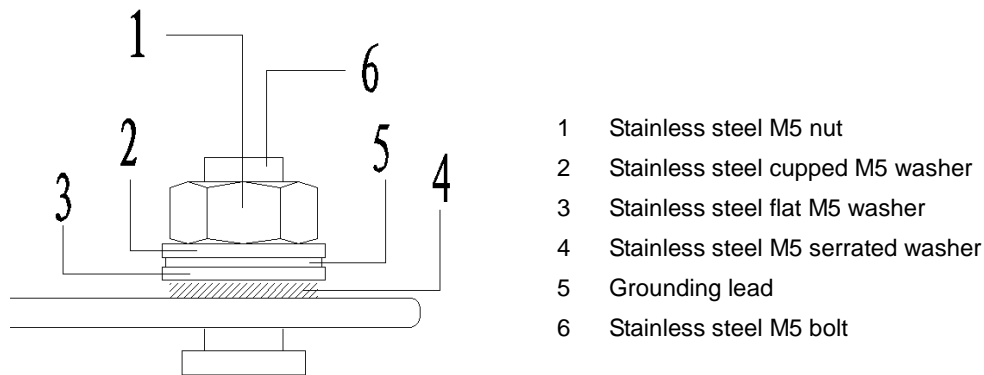

Figure-1 Grounding panel frame with stainless steel grounding & bonding equipment
4.3.3 Use a set of stainless steel grounding and bonding equipment including bolt/nut/cupped washer/flat washer/serrated washer to provide a reliable grounding connection to the module frame (refer to Figure-1). A flat washer is required between serrated washer and $\Phi 2.5\text{mm}$ grounding wire. A cupped washer is required between grounding wire and the nut (with torque less than $4\text{N}\cdot\text{m}$). Grounding wire should be directly connected with the screw.